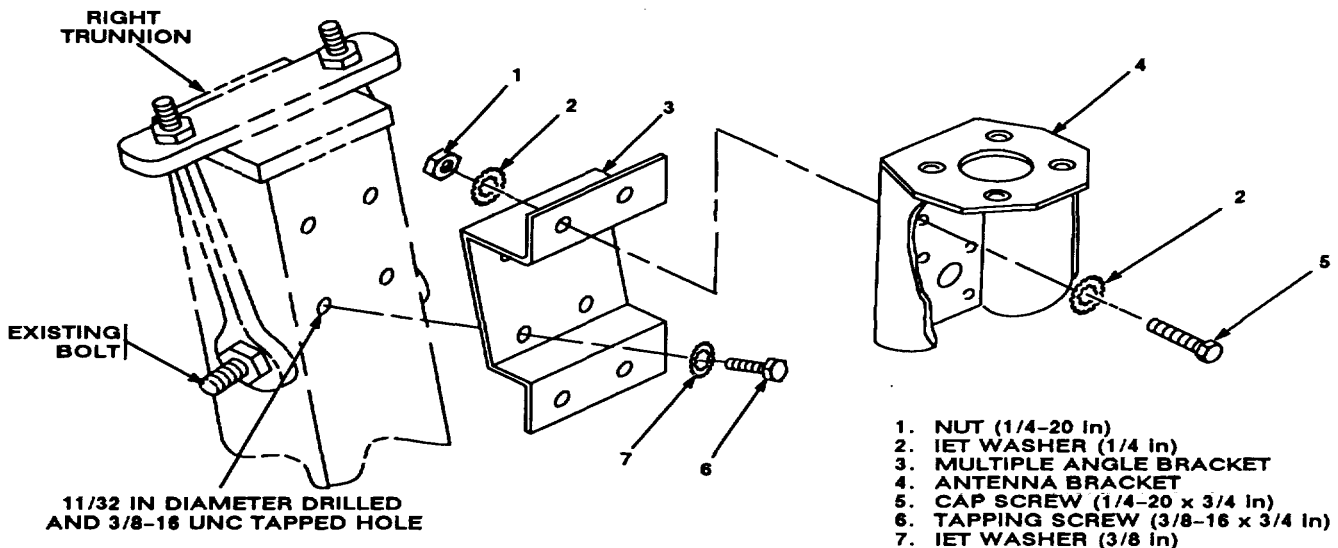

Figure 5-2 (1). Antenna Base Installation: Installing Antenna Bracket
| a. Mounting holes for multiple angle bracket (3). | Using angle bracket as a template, drill four 11/32 in diameter holes in right trunnion above existing bolt. See figure 5-2 (1) for approximate location. | Tools: Electric drill and 11/32 in drill bit. |
| b. Four holes drilled in step a. | Cut screw threads in holes. See figure 5-2(2) | Tools: Tap handle and tap (3/8-16 UNC-2B). |
g. Gasket (4).	Place on antenna bracket (5) and aline mounting holes. See figure 5-2 (2).
h. Antenna base (1).	Place on top of gasket (4) and antenna bracket (5); then aline mounting holes.
i. Four cap screws (2), eight IET washers (3) and four nuts (6).	Install and secure to antenna base (1) and antenna bracket (5).	Tools: 9/16 in socket and 9/16 in open/box wrench.
j. Ground strap (9), cap screw (8), two IET washers (7), one IET washer (11) and nut (10).	Install and secure to bottom left hole in antenna bracket (5) and multiple angle bracket (12).	Tools: 7/16 in socket.